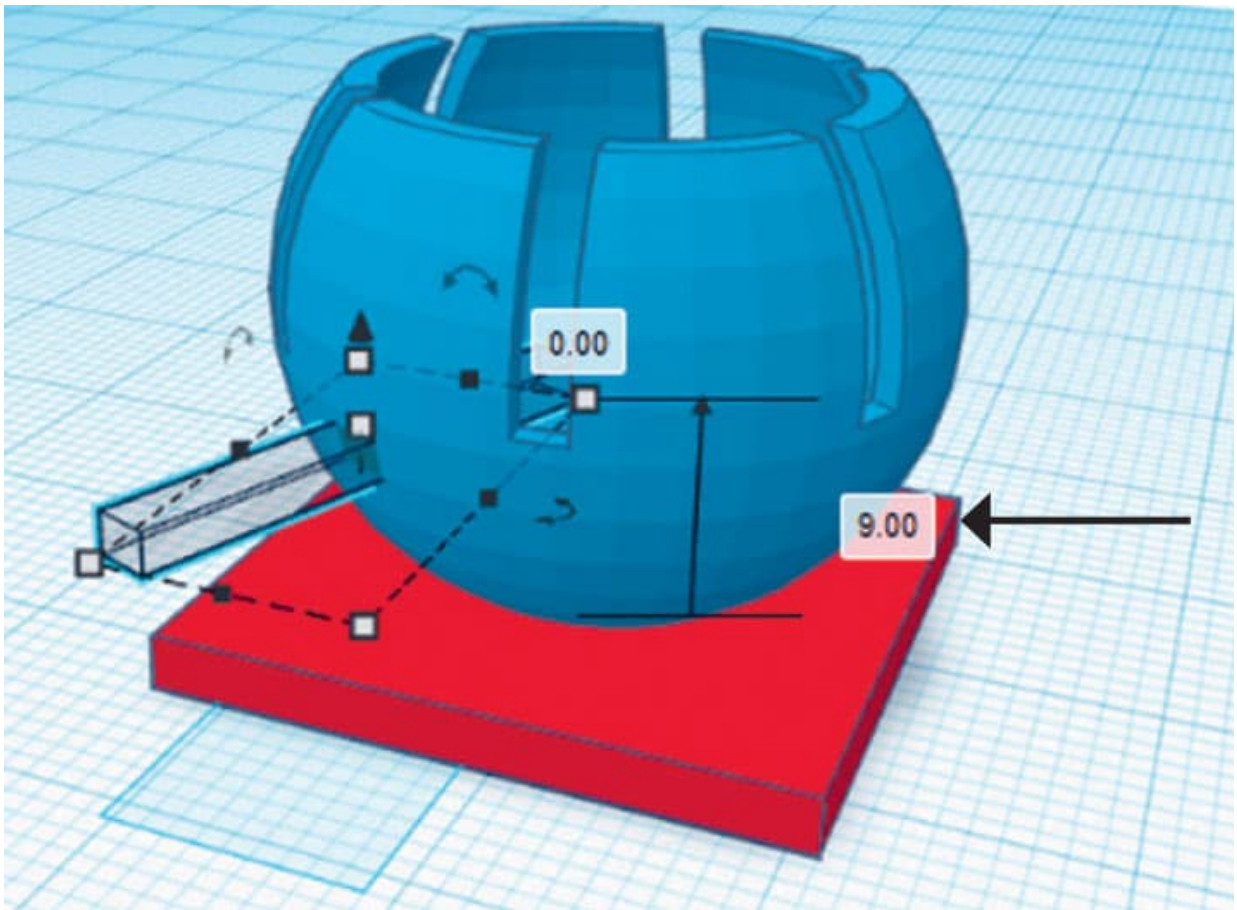
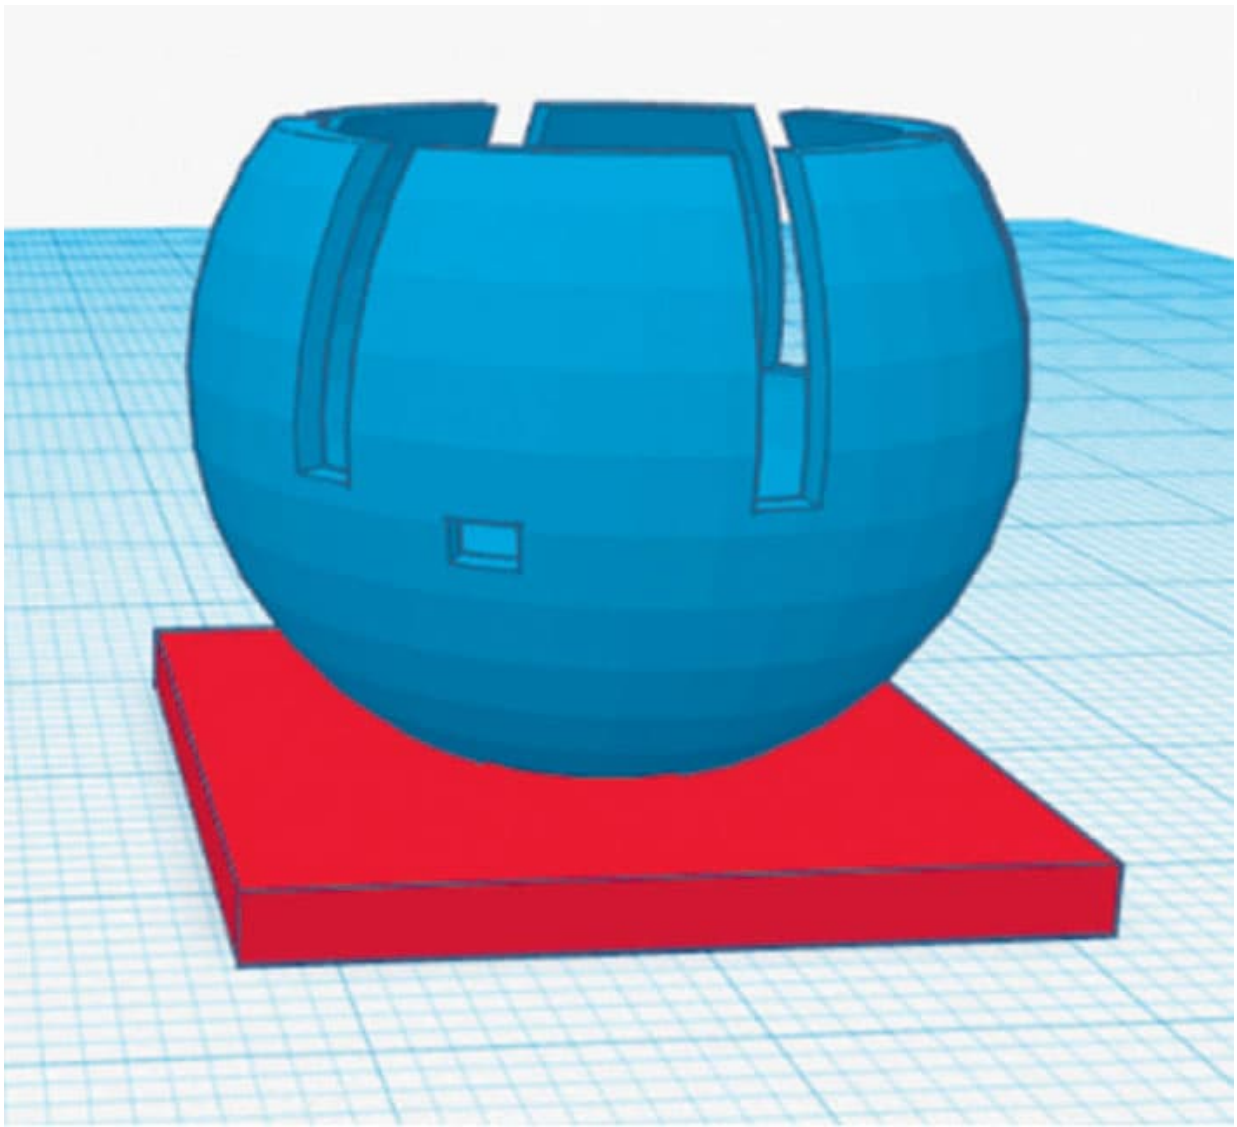

FIG. 2: Create a box-shaped hole in the socket.
FIG. 3: *The completed box-shaped hole in the socket.*
3. We will now create a keyhole so we can lock the holder in a vertical position. Create a $2\text{ mm} \times 2\text{ mm} \times 20\text{ mm}$ **Rectangular Box Hole**. Merge it with the socket at the about half the height of the socket (note the height from the workplane; see the arrow in fig. 2). **Group** the box hole with the socket to form the keyhole in the socket (fig. 3).